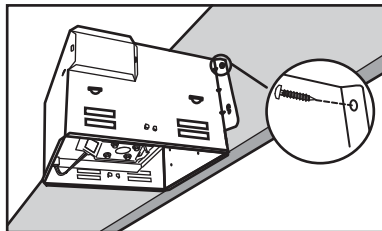

Figure 2
To install the housing to a joist, position the housing in the opening so the bottom edge is flush with the finished ceiling. Secure the housing to the joist with four (4) screws as shown in Figure 2.